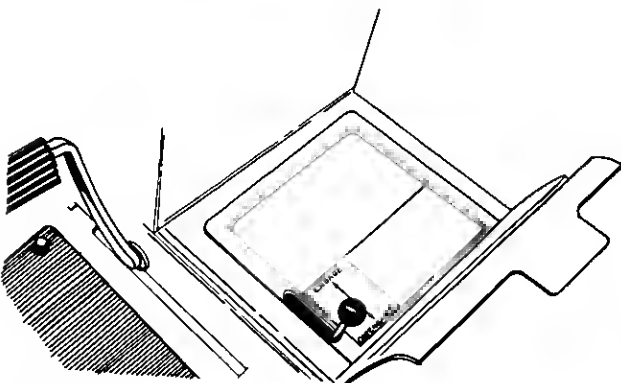

FIGURE 6.
2. To disengage the dump valve, release the lever. See figure 6.